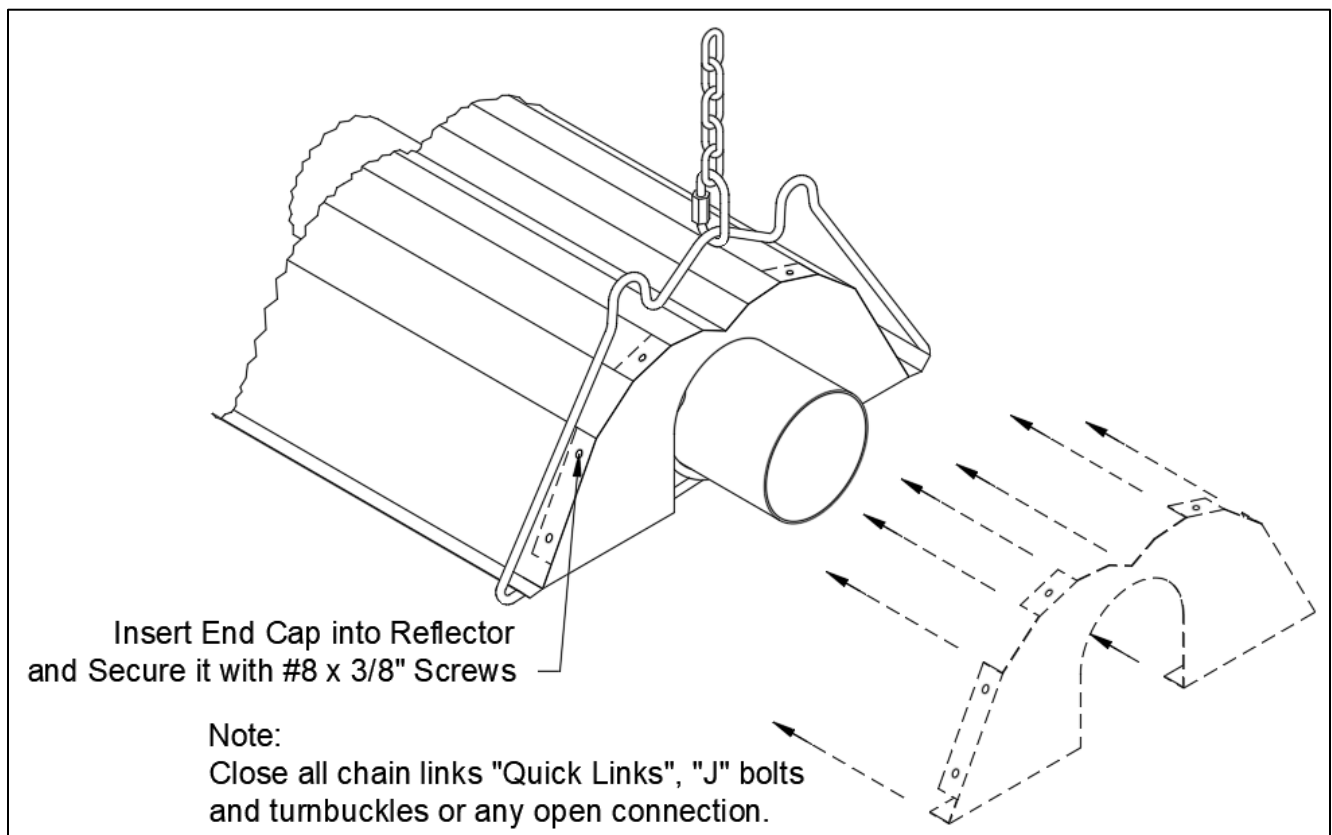

Figure 16: Reflector End Cap Installation
- Install End Cap as shown in Figure 16